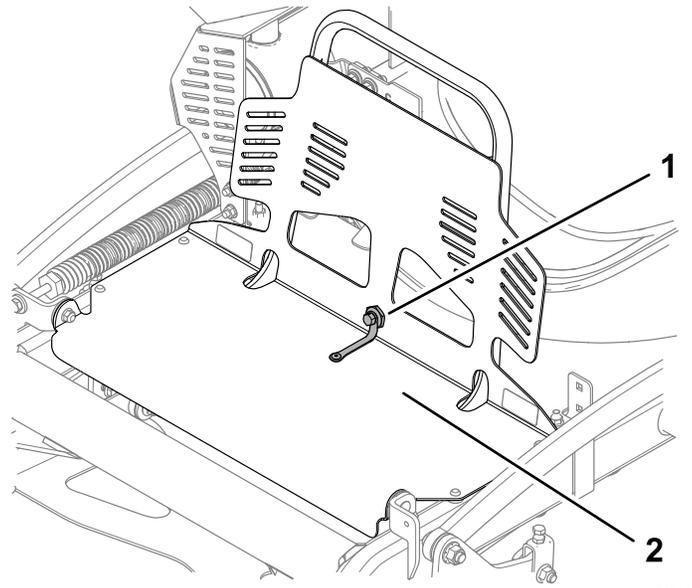

Figure 1
1. Remove the bolt and shoulder nut securing the engine guard to the guard extension (Figure 1).